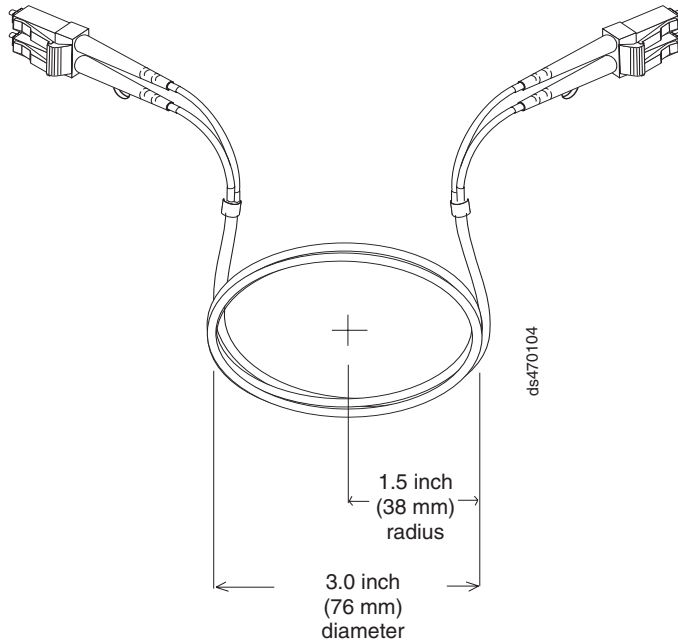

Figure 33. Recommended bending and looping specifications for fibre-optic cables
- When storing excess or unused fibre-optic cables, do not bend the cables to a diameter of less than 76 mm (3 in.), or a radius less than 38 mm (1.5 in.) or wrap them around themselves. See Figure 33 on page 58.